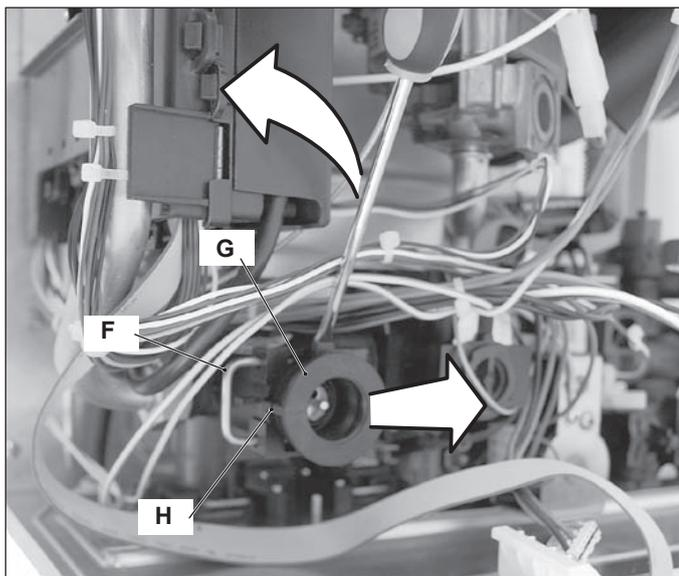

Figure 8.5
- 4 Remove the fixing spring F (Figure 8.5)
- 5 Remove the three-way diverter valve G by levering with a screwdriver in as shown in Figure 8.5.
**Attention.** When reassembling the three way diverter valve be sure that the three way diverter is correctly oriented by matching the reference H with the notch of the water group Figure 8.5.